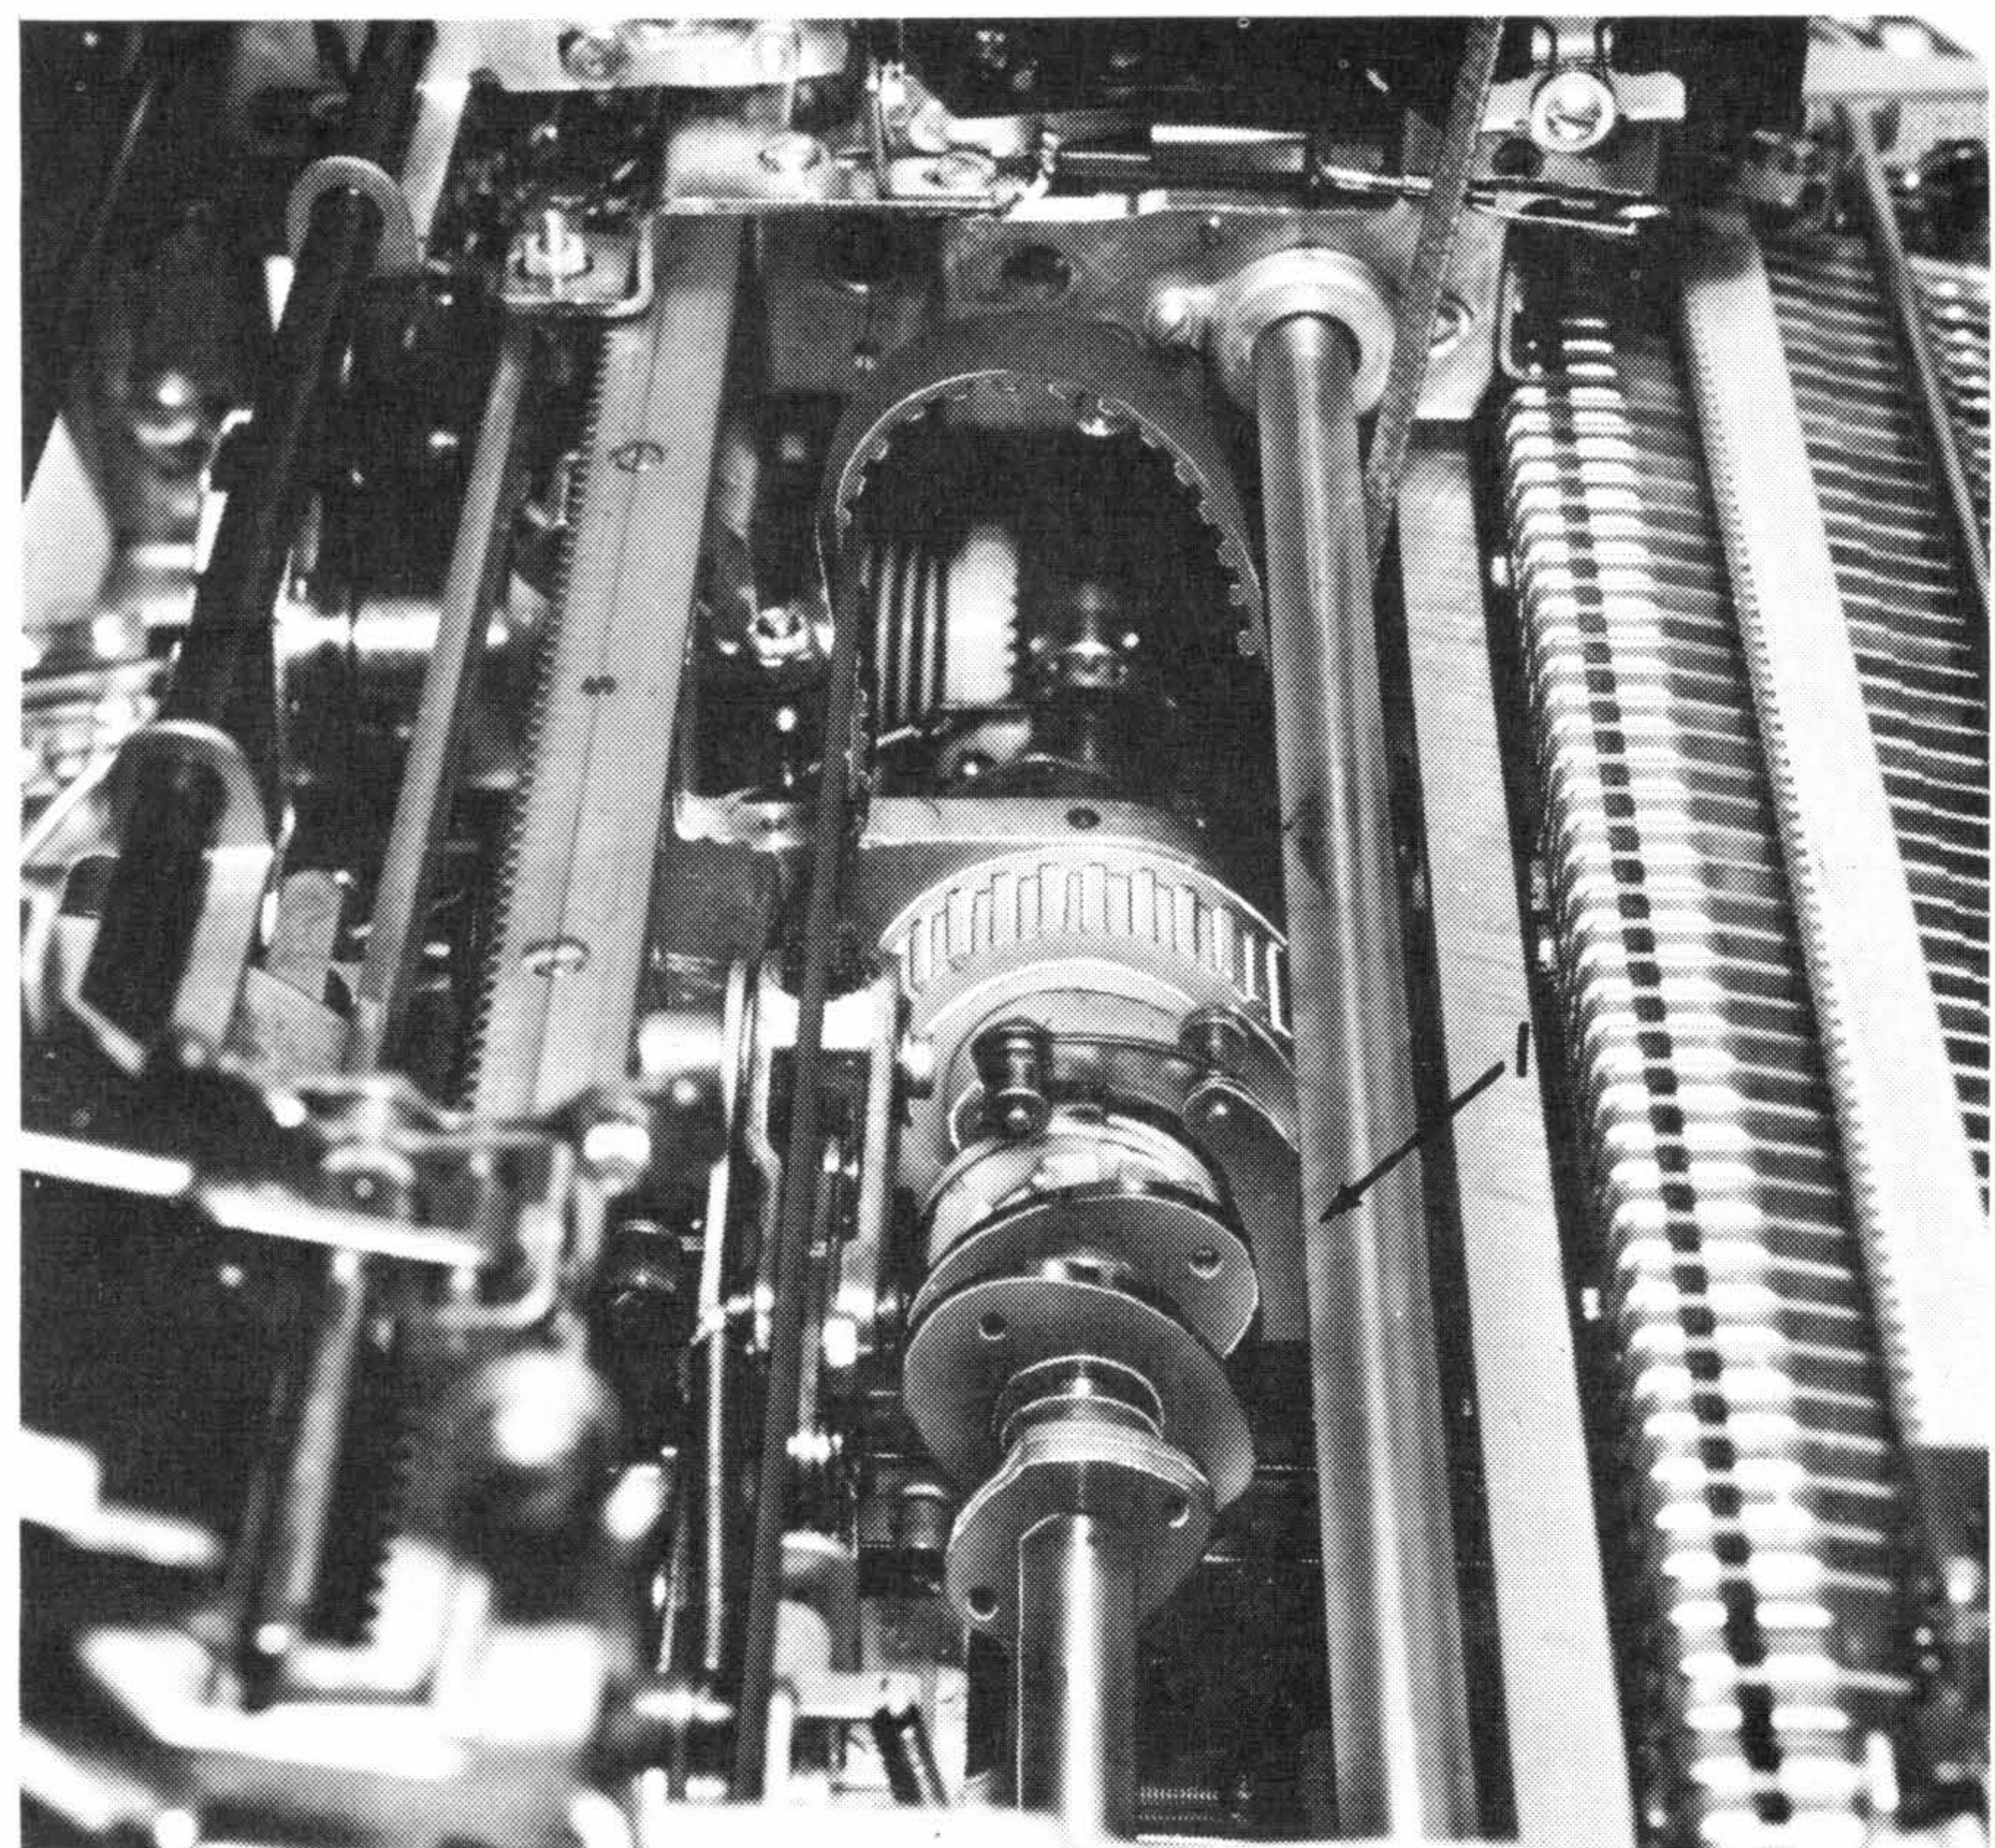
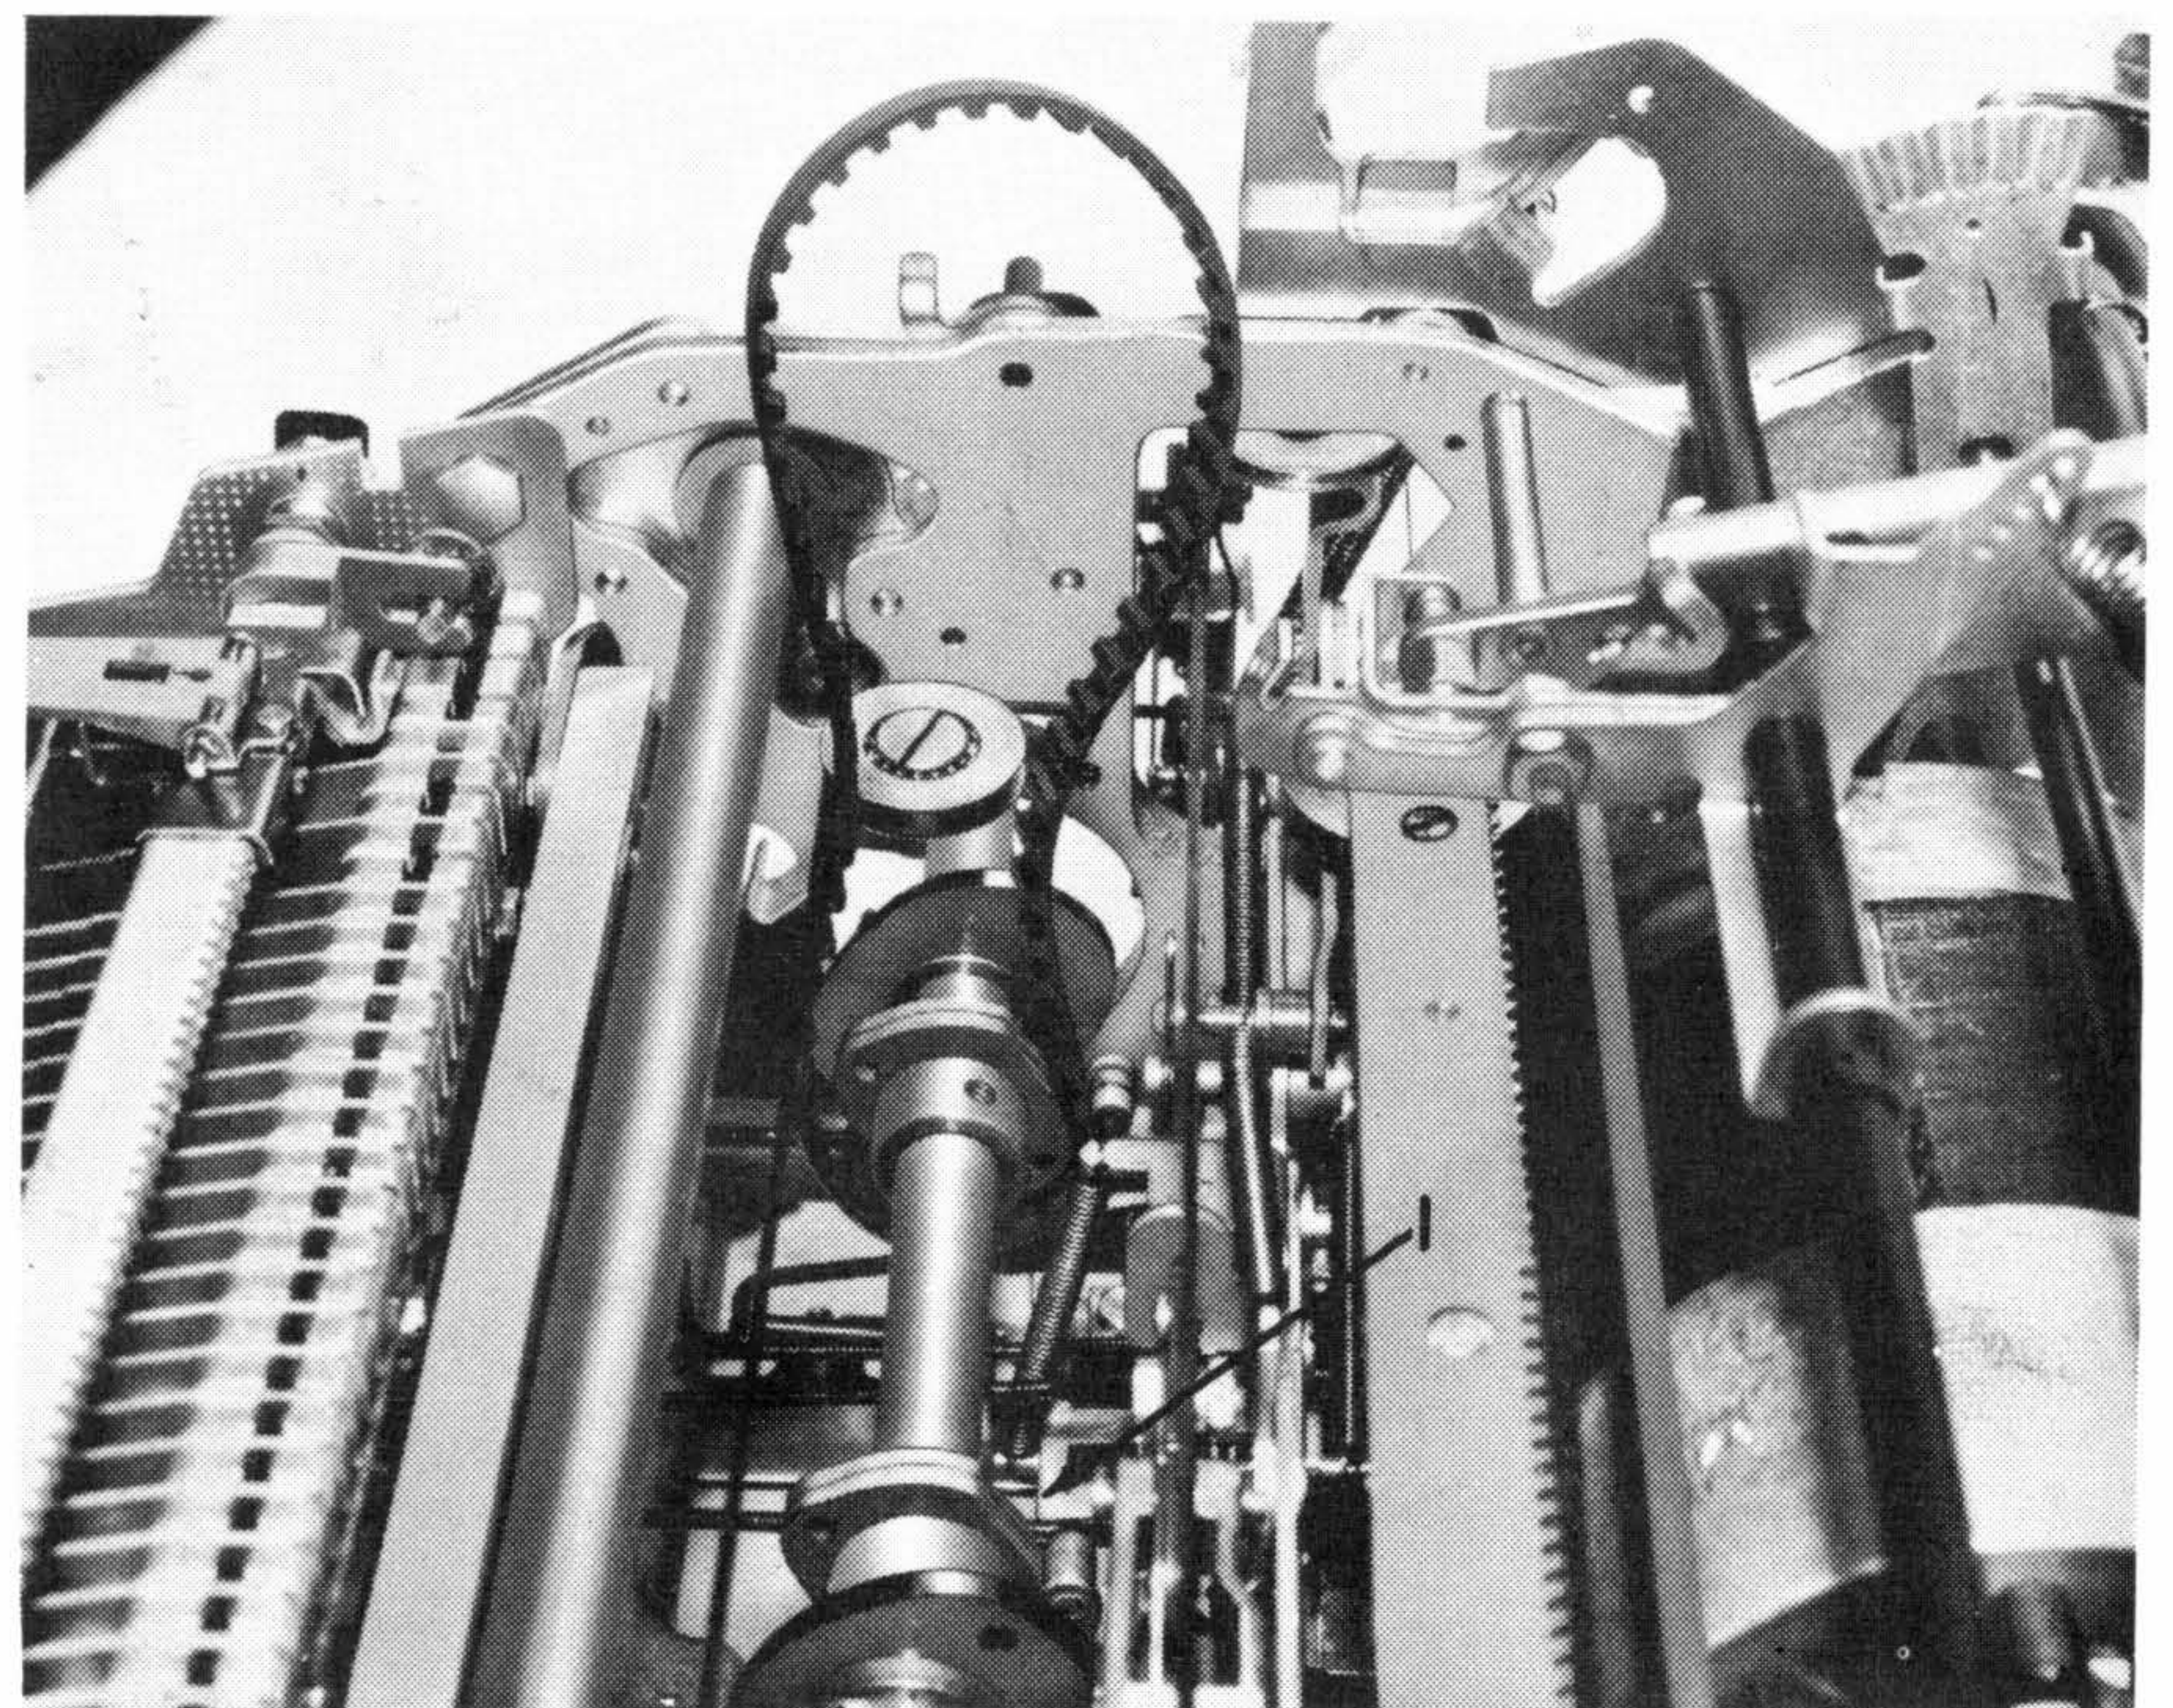

Figure 10. Belt Replacement
Figure 11. Belt Replacement
12. Force the positive bail down with a screwdriver (#1, Figure 11) making sure all the latches are under the bail. Insert a bristol wrench through the lower left bearing plate mounting hole over the top of the bail to hold it down.
13. Loosen the two cycle-clutch latch-bracket mounting screws (#1, Figure 10). Slip the new belt through the bearing plate hole, around the shaft, and over across the cycle shaft to the cycle-clutch latch (Figure 11). Work it between the latch and the cycle-clutch sleeve.